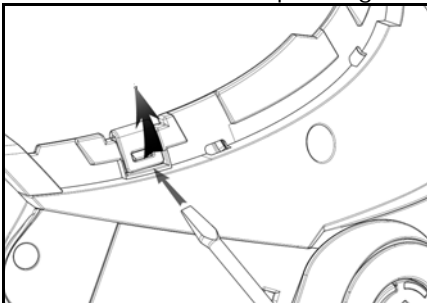

Fig. 9
- Unhook the right clip from the shell, levering upward using a flat head screw (or a similar tool), as shown in figure 9.